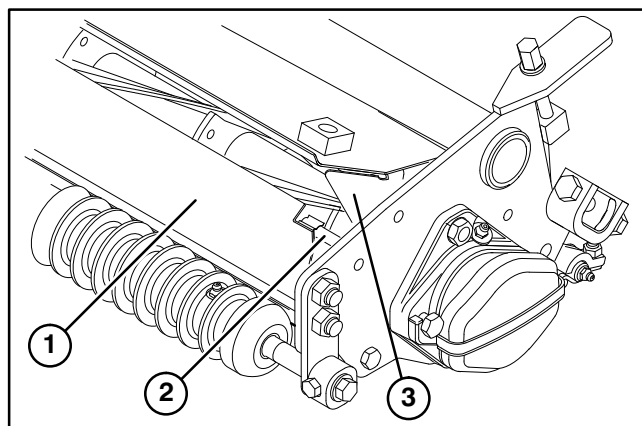

Figure 10
- A. Remove and discard front shield assembly (Fig. 10). Also, remove and discard shield mounting studs and fasteners secured to each cutting unit side plate.